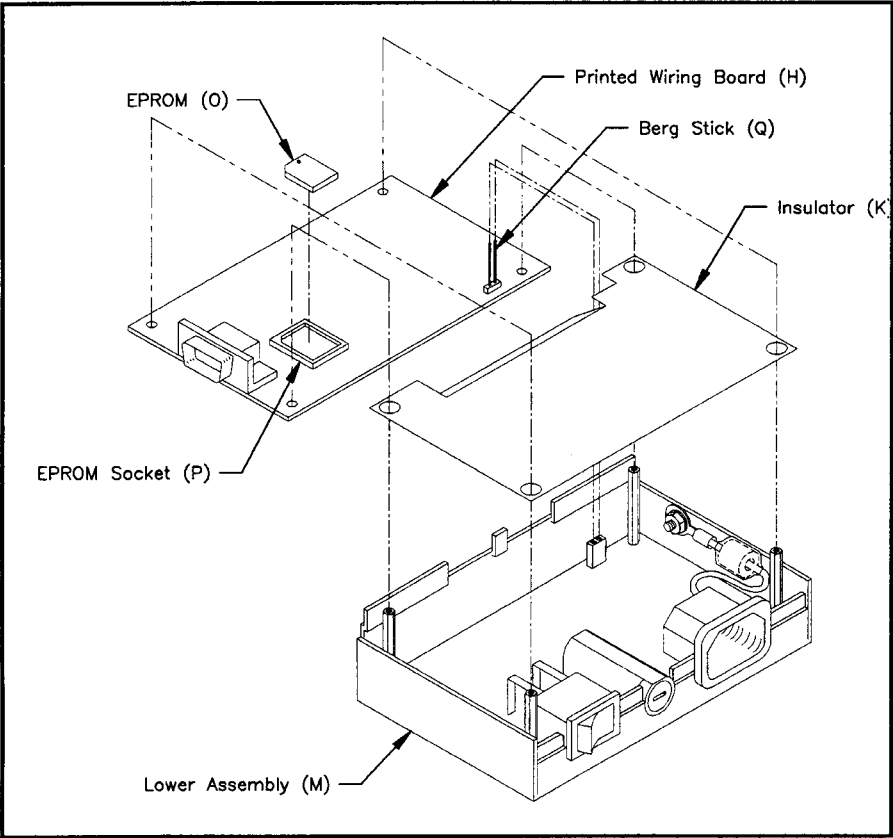
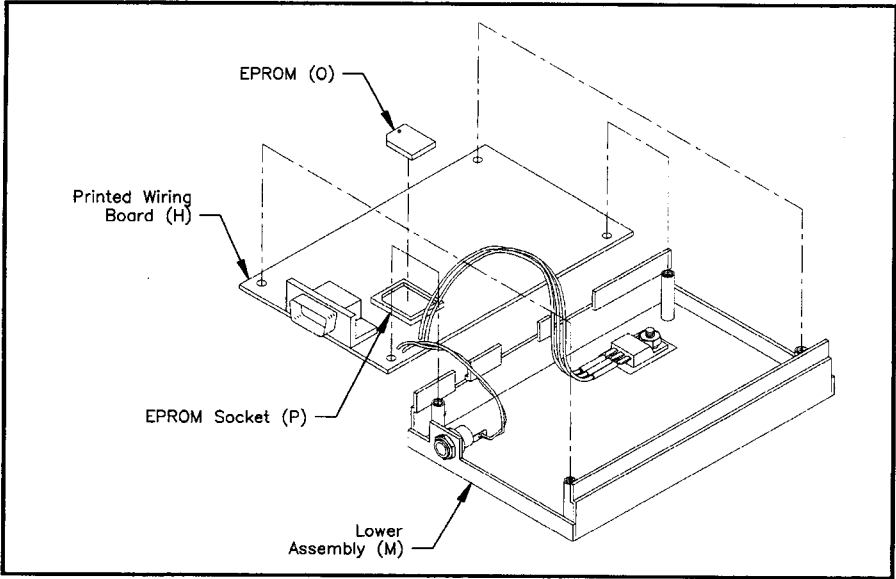

Figure 3. The GPIB-232CT-A (AC Version) Lower Assembly and Printed Wiring Board
Figure 4. The GPIB-232CT-A (DC Version) Lower Assembly and Printed Wiring Board
Refer to Figure 3 and complete the following steps to change the GPIB-232CT-A EPROM.
1. Turn the printed wiring board (H) so that the underside is facing upwards.
2. Use the scribe to remove the old EPROM (O) by carefully prying it out of the EPROM socket (P). Be careful not to put too much force on the EPROM socket (P) which might cause it to crack.
3. Notice that the EPROM (O) and the EPROM socket (P) are each keyed in one corner so that you can only insert the EPROM (O) in one orientation. Remove the new EPROM from the antistatic bag. Align the new EPROM (O) correctly with the EPROM socket (P).
4. Press firmly to ensure that the EPROM (O) is secure in the EPROM socket (P).
Figure 3 shows the location of the EPROM (O) and the EPROM socket (P) on the underside of the AC version of the printed wiring board (H). If you have a DC version of the GPIB-232CT-A, refer to Figure 4.
Refer to Figure 4 and complete the following steps to change the GPIB-232CT-A EPROM.
Figure 4 shows the location of the EPROM (O) and the EPROM socket (P) on the underside of the DC version of the printed wiring board (H). If you have an AC version of the GPIB-232CT-A, refer to Figure 3.